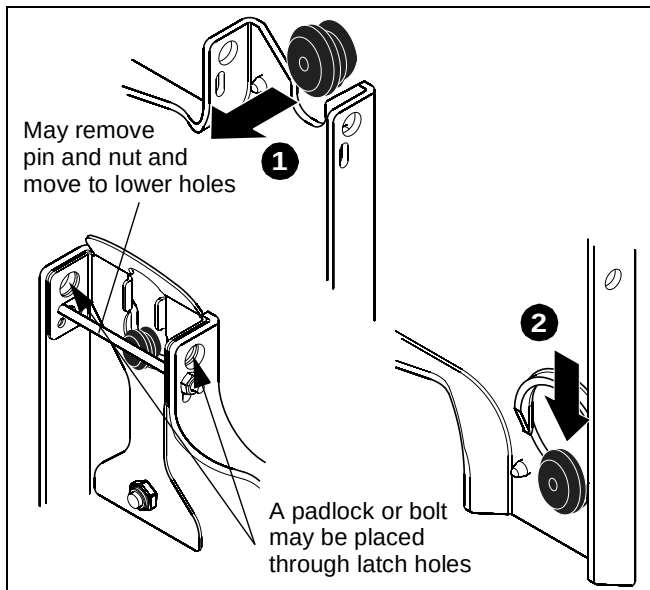

Figure 5
**NOTE:** Holes are provided in the faceplate for use with a padlock or similar locking device, if desired. In addition, the pin and nut may be removed from the upper holes and moved to the lower holes for use as a more permanent locking device. (See Figure 5).